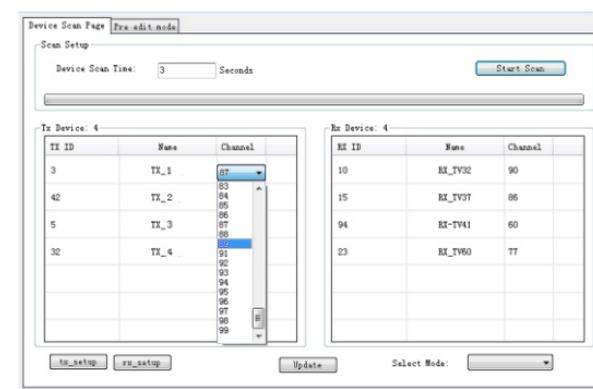

Figure 6
* Device Channel setting as Figure 6